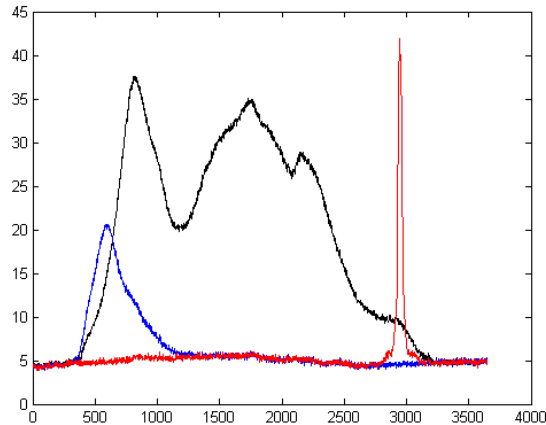

Figure 6: The spectra with the x axis as pixels.
- Let's plot our data. It should look something like Figure 6.